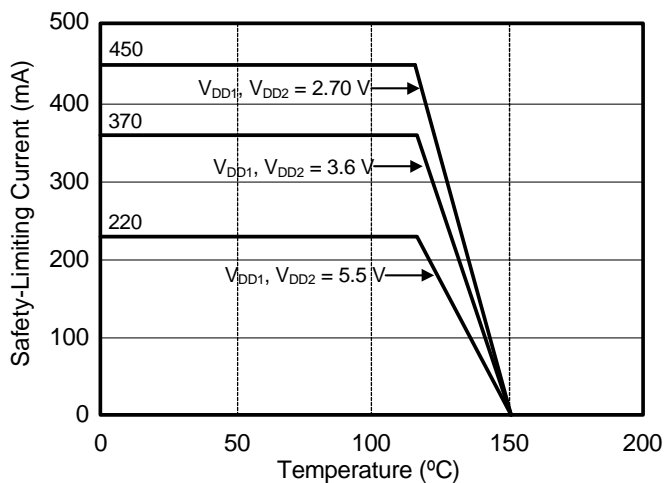

Figure 4. (WB SOIC-16) Thermal Derating Curve, Dependence of Safety Limiting Values with Case Temperature per DIN EN 60747-5-2
- Maximum value allowed in the event of a failure; also see the thermal derating curve in Figures 4 and 5.